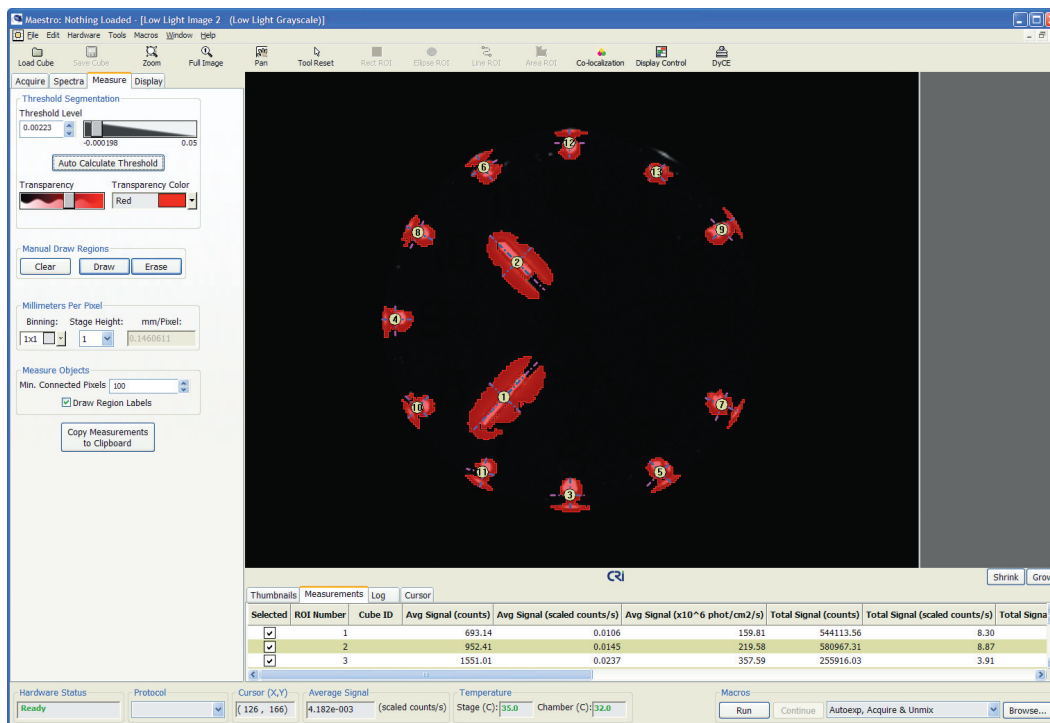

Figure 38. Low Light Measurement Regions
- You can use the **Auto Calculate Threshold** feature or manually draw regions around regions of interest. For this example, **Auto Calculate Threshold** was used and then the **Threshold Level** was decreased until regions were drawn around all of the luminescent areas (see Figure 38).